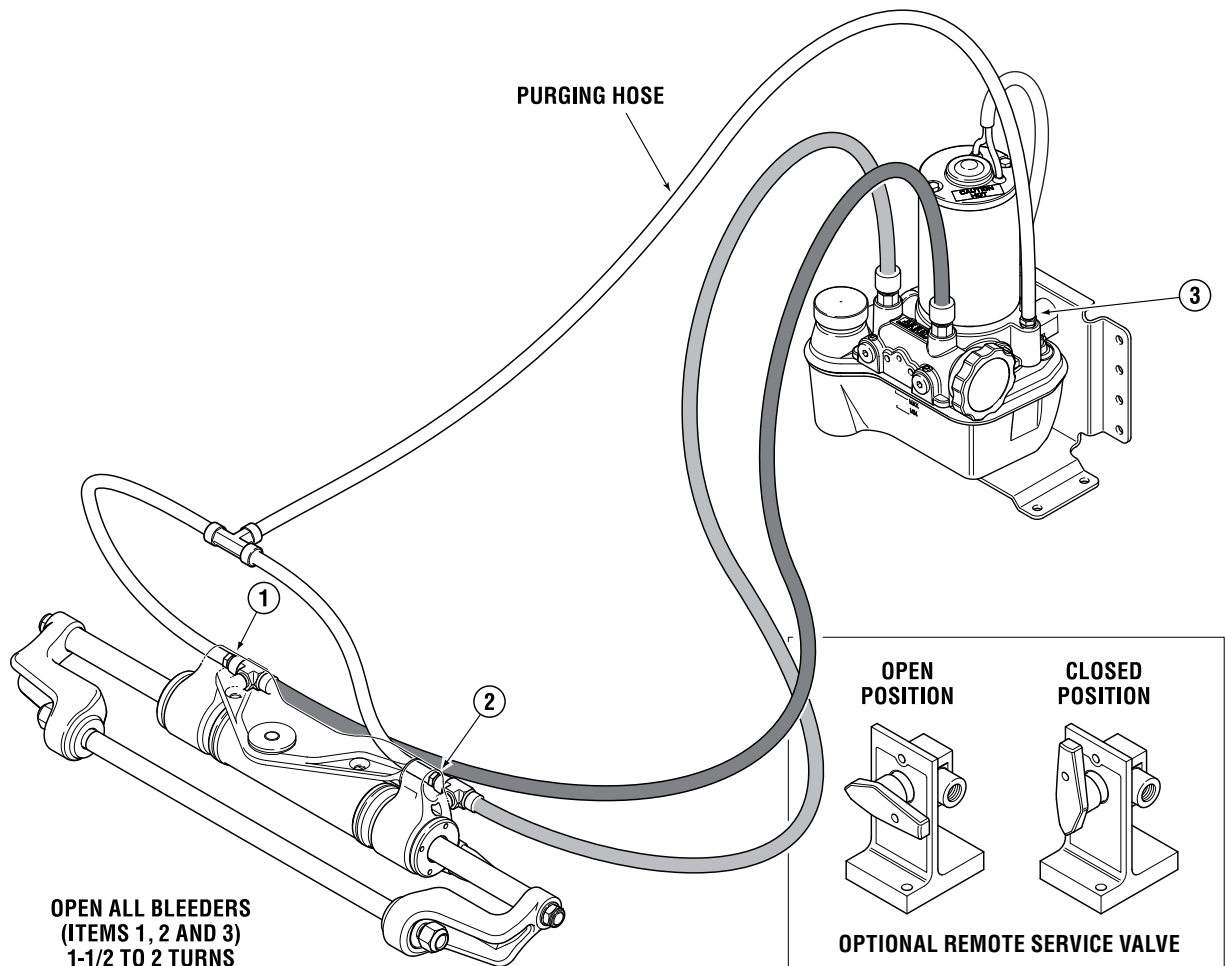
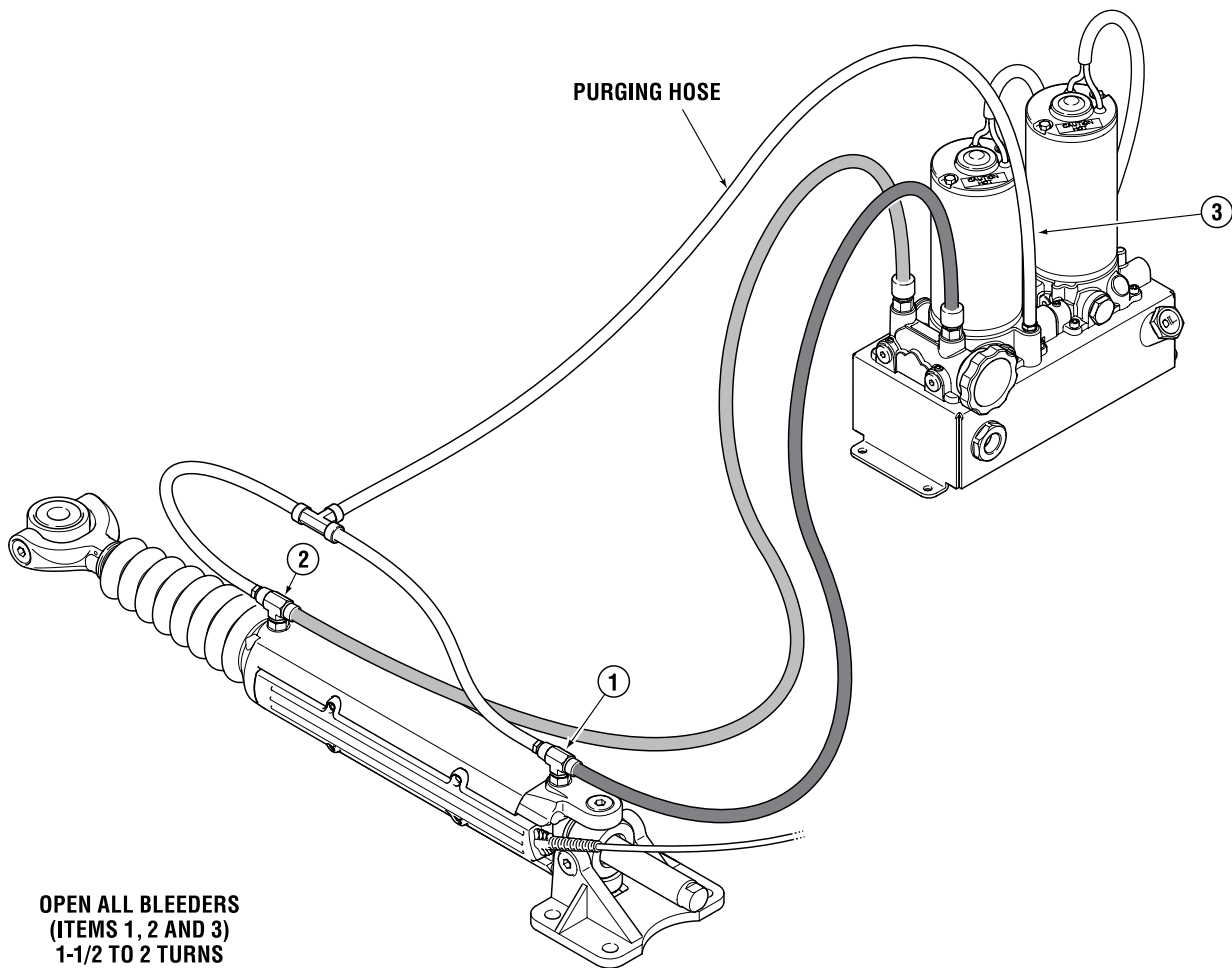

Figure 5-4.
Figure 5-5.
2. Connect the purge hose as shown in figure 5-4 or figure 5-5. Figure 5-4 illustrates an outboard system, however the purge hose connections are the same for 3000 series systems. Figure 5-5 shows the purge hose connections for a 5000 series systems.
**Failure to open the pump bleed fitting (item 3 in figure 5-4 and figure 5-5) may cause the purge hose to rupture.**